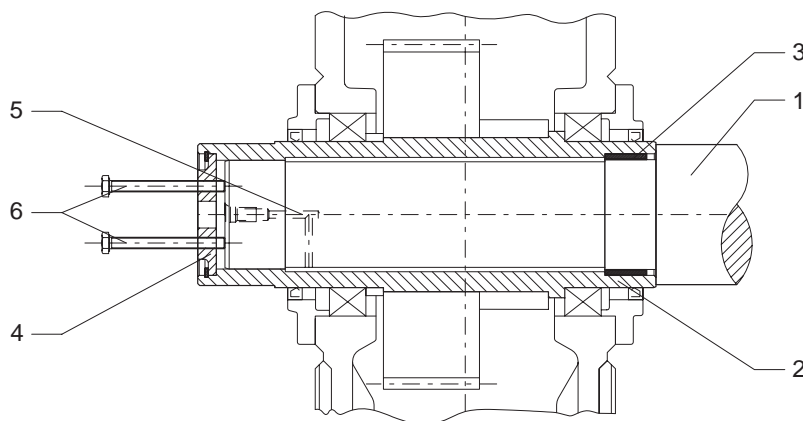

Fig. 12
- Depending on the facilities available on site, the gear unit can be forced off the machine shaft using forcing screws in an end plate (see fig. 12), a central threaded spindle or preferably a Lucas hydraulic lifting unit.